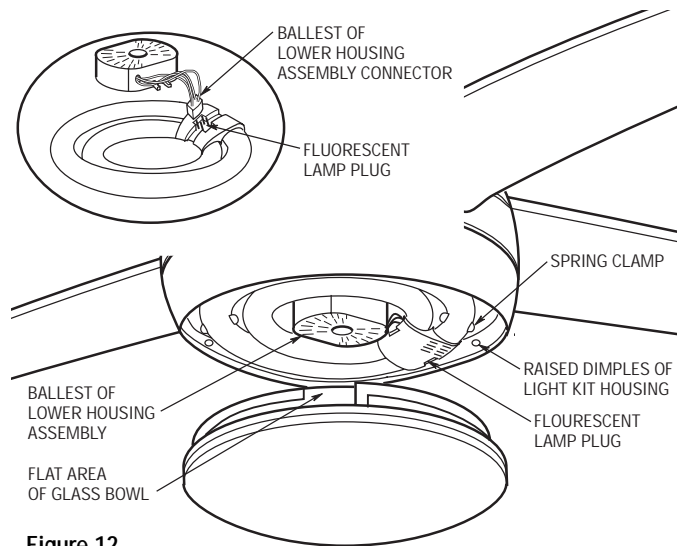

Figure 12
- ☐ 1. Engage the connector of the ballast, in the lower housing assembly, onto the fluorescent lamp plug (Figure 12).
- ☐ 3. Place the glass bowl into the opening in the lower housing assembly, aligning the three flat areas on the top edge of the glass with the three raised dimples on the lower housing assembly and turn the glass bowl clockwise until it stops (Figure 12).